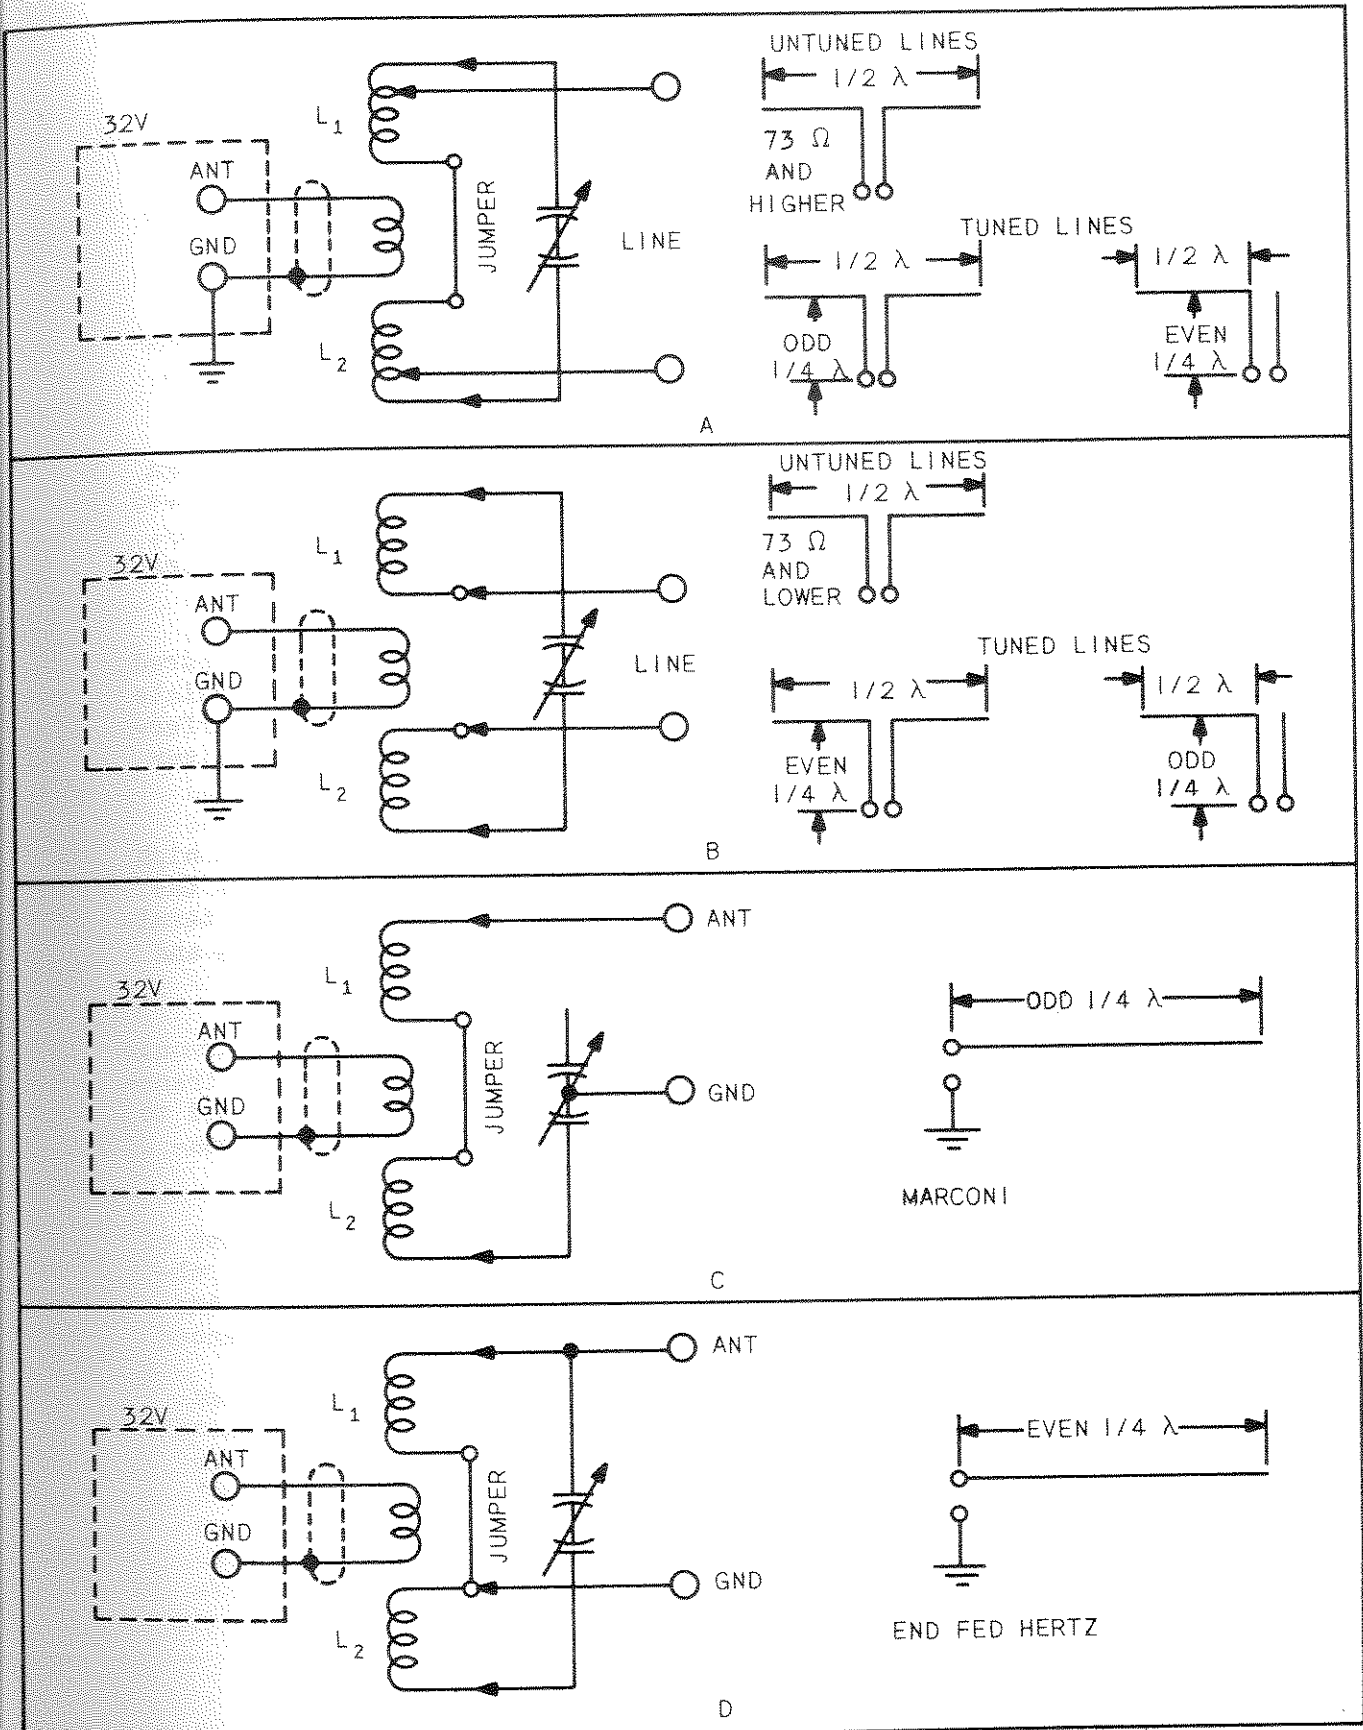

Figure 2-3 Typical Antenna Tuner Circuits
line through a simple, tuned circuit. This arrangement will match a wide range of impedances. It will also add further attenuation to harmonics causing TVI, providing it is completely shielded. Figure 2-3 illustrates an antenna tuner that will function satisfactorily in this application. The impedance of the transmission line is matched by proper choice of taps on the inductances L1 and L2. The coupling link is coupled as tightly as possible and all loading adjustments are made by means of the LOADING control on the 32V-3. On the 15, 11, and 10 meter bands, the number of turns in the coupling coil should not exceed one turn; two turns may be necessary on the 20 meter band.
a. UNTUNED HIGH IMPEDANCE TRANSMISSION LINE. - If the line has a characteristic impedance of 73 ohms or more, employ parallel tuning of the antenna coils L1 and L2. For parallel tuning, close the jumper between the antenna coils. Transmission line taps then should be set on the same turns as the capacitor taps to start with, varied toward the center of the coils until proper loading is obtained. In this type of operation, low values of capacitance and high values of inductance for the operating frequency generally are best. See illustration A., figure 2-3.
b. UNTUNED LOW IMPEDANCE TRANSMISSION LINES. - Transmission lines having a characteristic impedance of less than 50 ohms require series tuning of the antenna coils. This is done by opening the jumper between the coils and moving the transmission line tap arms to the inside coil turns. The capacitor taps should be set at the outside turns and varied toward the inside turns until proper loading is obtained. Higher values of tuning capacity usually work out best in this type of operation. See illustration B., figure 2-3.
e. QUARTER WAVE MARCONI. - Series tuning is indicated for quarter-wave Marconi antennas. In this type of operation, connect the antenna tuning circuit so that the two sections of the antenna coil and one-half of the antenna tuning capacitor are in series. To do this, place a grounding jumper to the rotor of the antenna tuning capacitor, connect the antenna to one end of the antenna coil, connect one stator of the tuning capacitor to the other end of the antenna coil and disconnect the other stator completely. See illustration C., figure 2-3. In event r-f
f. END FED HALF WAVE. - This tuner can be used to tune this type of antenna also. Employ parallel tuning for this type of operation. Connect the antenna to one end of the antenna coil, make a ground connection to the inside turn of one of the antenna coils and close the jumper between the coils. The tuning capacitor taps should be equally spaced from each end of the antenna coils for proper tuning at the operating frequency. See illustration D., figure 2-3.